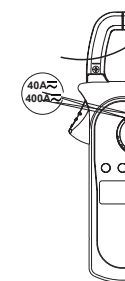

Figure 9
**G. Measuring DC/AC Current** (See Figure 9)